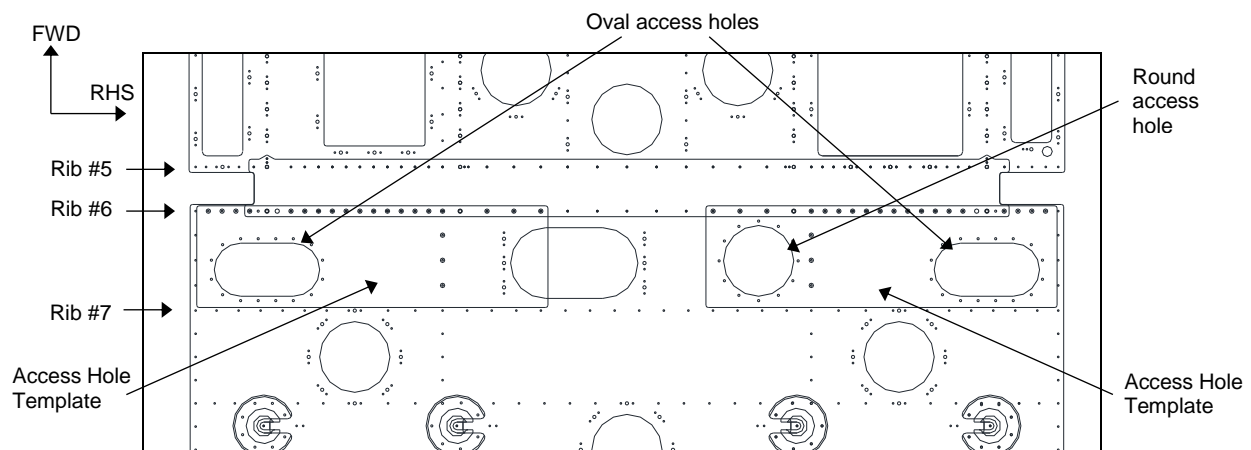

Figure 10: Centre Floor Skin Access Holes
- 1) Position P/N GA8-533028-037 Access Hole Template Centre on the Floor Skin as shown in Figure 10.
- 2) Mark the locations of the oval-shaped access hole and adjacent fastener holes on LHS of the Centre Floor Skin using Access Hole Template. (See Figure 10).
- 3) Mark the locations of both the round and oval-shaped access hole and adjacent fastener holes on RHS of the Centre Floor Skin. (See Figure 10).